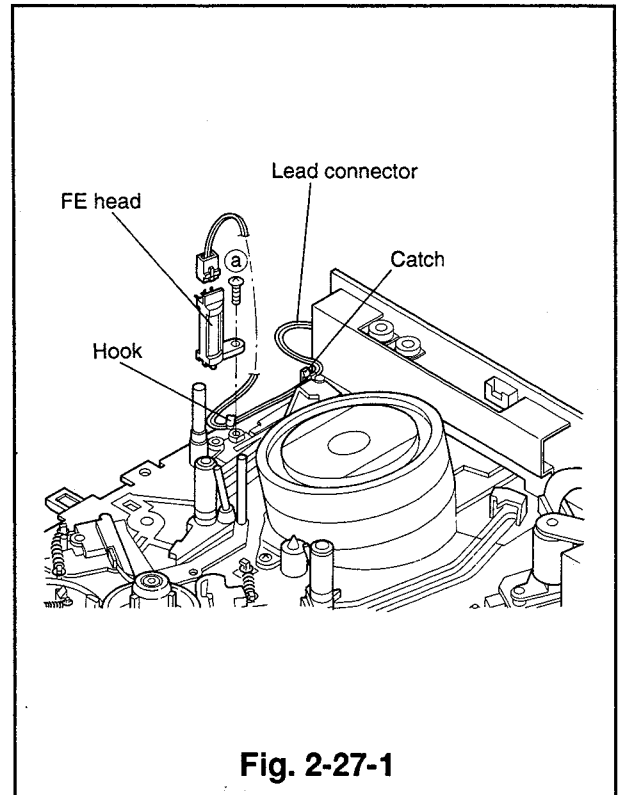

Fig. 2-27-1
2-27 FE Head (Refer to Fig. 2-27-1.)
- ① Secure the FE head with the screw(Ⓐ) and connect the lead connector to the FE head. (Route the lead connector, which is fastened with the catch as shown in Fig. 2-27-1, through the hook of the main plate.)